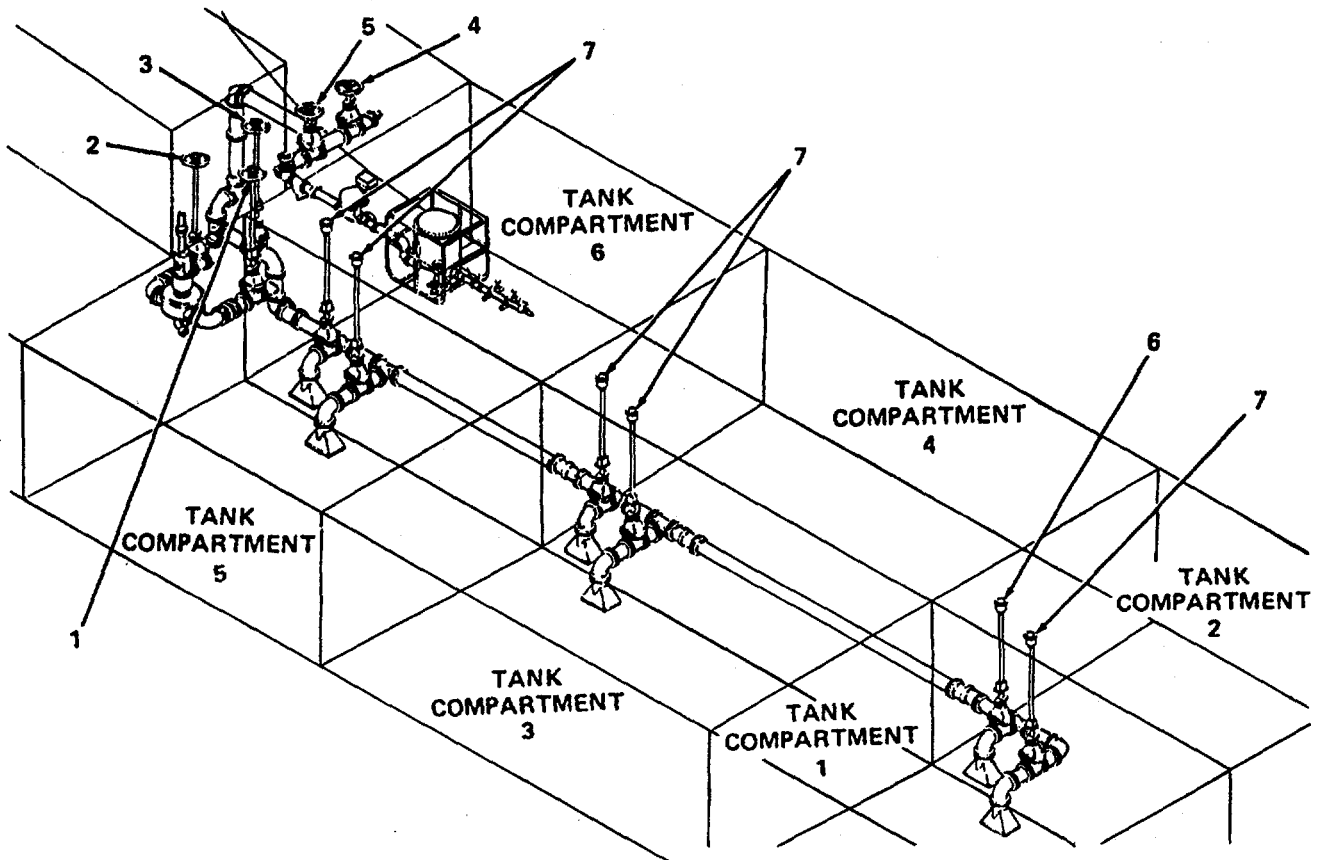

Figure 2-13. Below-Deck Cargo Transfer Piping Valve Positions During Refueling Operations.
- (1) Preventive maintenance checks and services (PMCS). When the barge is being used to refuel other vessels, its various components, such as engine, speed reducer, and cargo transfer pump may be stopped and restarted many times in a given time period. Under these circumstances, the preventive maintenance checks and services in table 2-1 will not be repeated as part of each separate refueling operation. Instead, the Before, During, and After intervals will be taken to mean at the beginning of the work day, during refueling operations, and at the end of the work day, respectively.
- (2) Cargo tank compartment selection. Assuming that the barge has a full, unmixed cargo, tank selection during refueling operations is based upon two factors:
- (b) Cargo tank compartments can be selectively emptied to create a slight lowering of the stern of the vessel. In this way, more complete stripping of the tanks is possible. This happens because the fuel pickups on the cargo transfer piping are located toward the rear inboard side of each tank compartment (See figure 2-13).
- 1 Pull fuel rod knob (1) on governor (2) all the way out to the wide open position.
- 2 Open THROTTLE (3) about 1/4 of the way by turning it approximately 90° counterclockwise.
- 3 Press STARTER button (4).
- 4 When engine starts, check OIL PRESS gage (5) for indication of lubricating oil pressure.
- 5 Observe WATER TEMP gage (6). Do not apply load until water temperature reaches 160°F (71.1°C).
- 1 Open pump suction valve (1, figure 2-13).
- 2 Open pump discharge valve (3).
- 3 Close bypass valve (3).
- 4 Close riser filling inlet valve (4).
- 5 Open riser discharge valve (5).
- 6 Open cargo tank valve(s) (6) corresponding to tank compartment(s) selected in step (c).
- 7 Close remaining cargo tank valves (7).
Figure 2-13 shows cargo tank compartment number two selected.